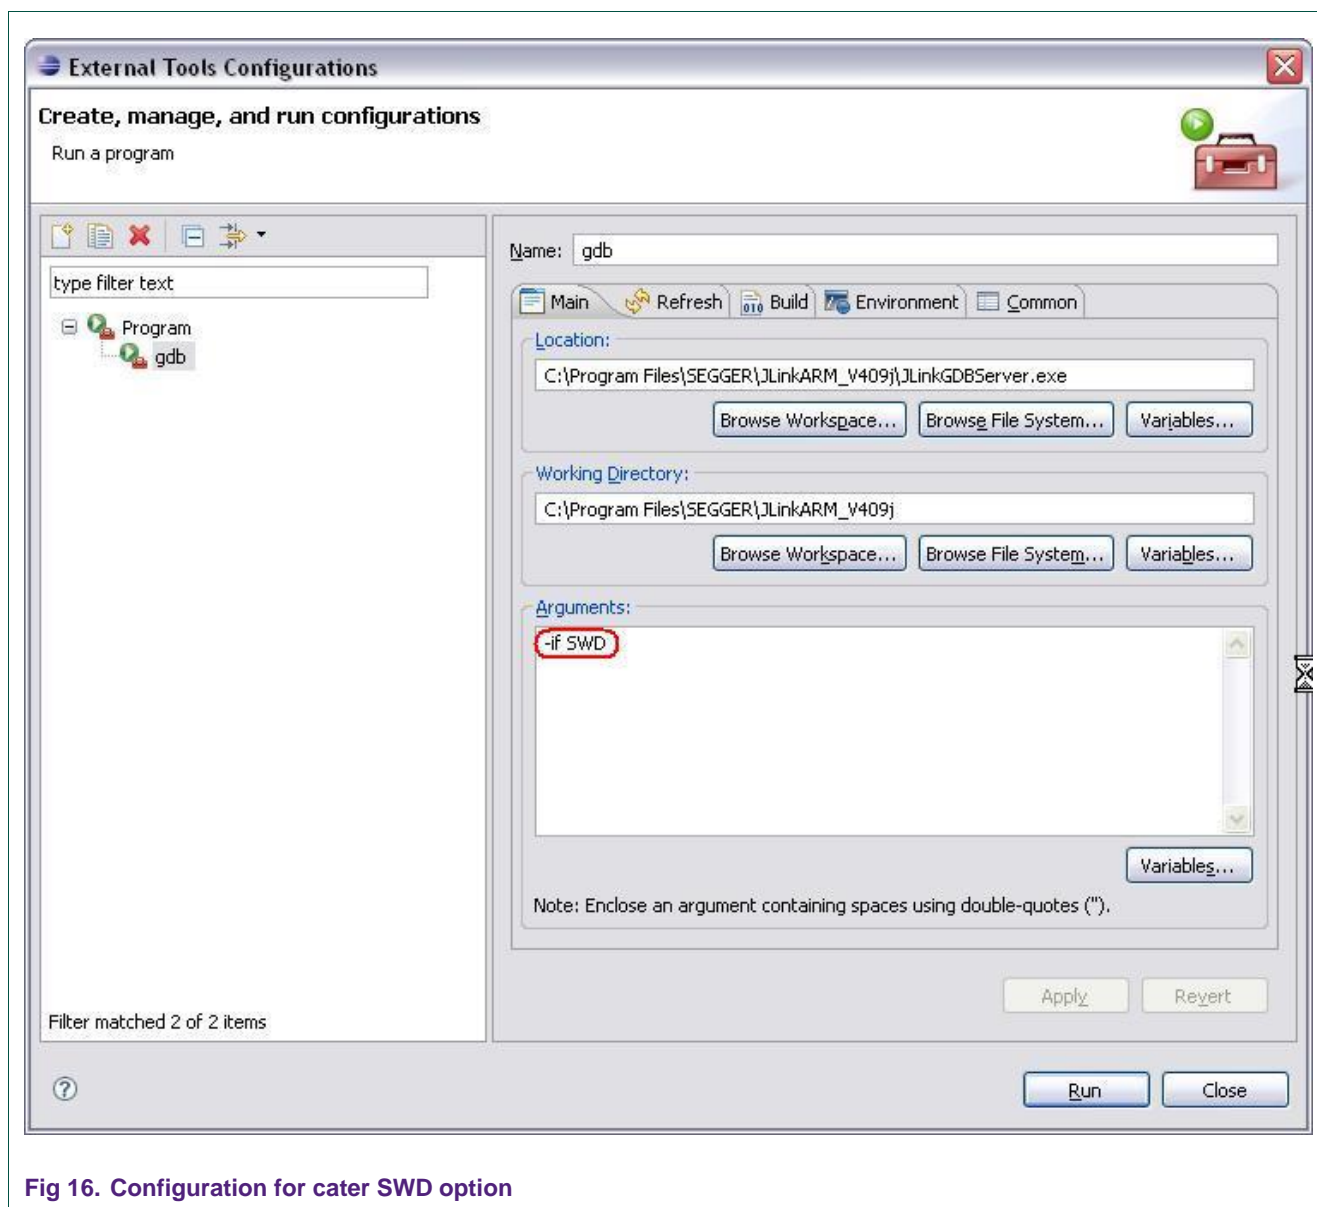

Fig 16. Configuration for cater SWD option
**Note:** If you want to use SWD debug mode (for LPC13xx and LPC11xx devices only support SWD), include "-if SWD" in Argument tab in External Tools Configurations of gdb program as shown in Fig 16.